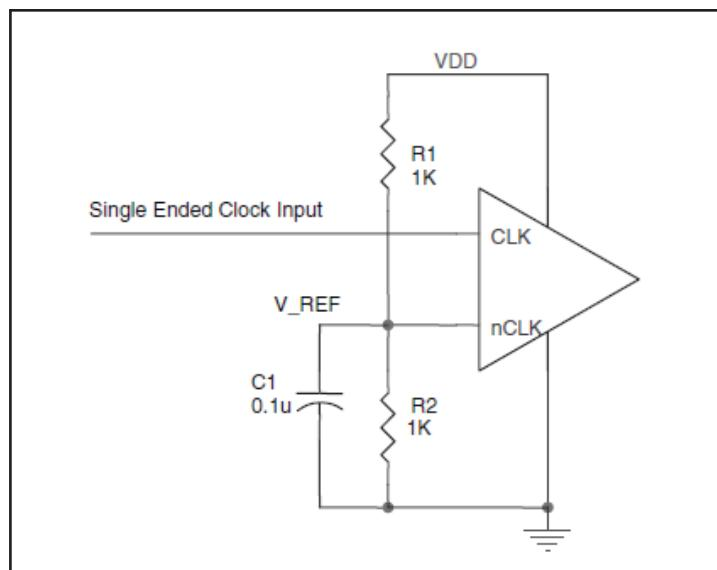

FIGURE 2. SINGLE ENDED SIGNAL DRIVING DIFFERENTIAL INPUT
*Figure 2* shows how the differential input can be wired to accept single ended levels. The reference voltage  $V_{REF} = V_{DD}/2$  is generated by the bias resistors  $R1$ ,  $R2$  and  $C1$ . This bias circuit should be located as close as possible to the input pin. The ratio